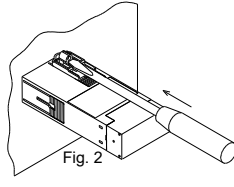

Fig.2
4. Push the mounting bracket forward with a blade screwdriver until the bracket is firmly secured to the panel. (Fig.2)